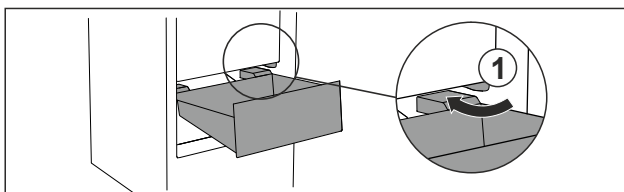

Fig. 82
- Guide drawer in at an angle around the stoppers Fig. 82 (1).